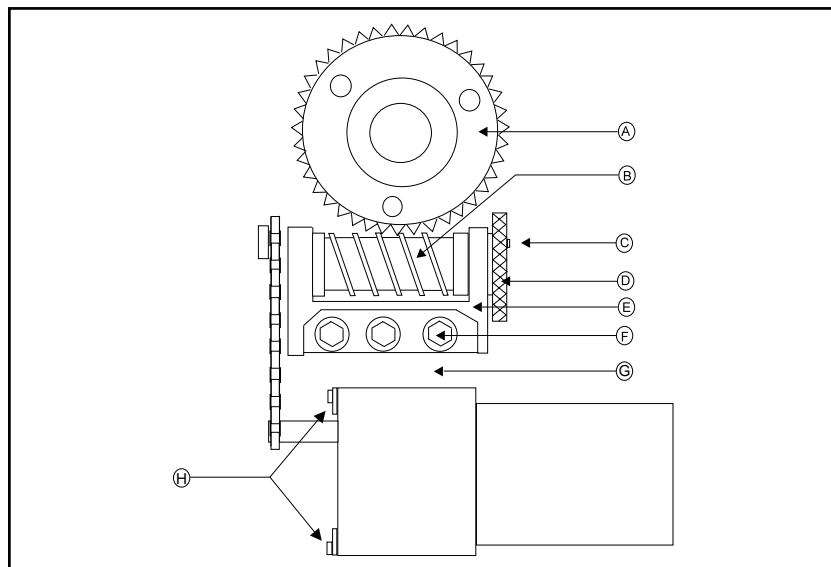

Figure 1. Pan and Tilt Adjustments
3. Refer to Figure 1. It shows the parts locations of the tilt assembly. Look for similar orientations of parts when adjusting the pan assembly.
- a. Verify that the worm drive (B) is fully seated in the worm gear (A). If it is not:
- (1) Locate the worm-driven gear for either the pan or the tilt motor linkage. Loosen the three hex screws (F) holding the worm in place, but leave enough thread in place to hold the assembly on the mount.
- (2) Using your thumbs, gently move the worm forward or pull the assembly back from the worm gear to either tighten or loosen the gear spacing to the worm gear. Move the base of the pan and tilt to check the adjustment.
- (3) If you get movement in the base, press a finger down in the middle of the worm assembly. If you get no movement in the base, use your thumb and forefinger to pull the worm assembly back until you get movement.
- (4) When the spacing is correct, tighten the hex screws. Start with the middle screw to ensure proper spacing.
- (5) Remove the screw (C) in the gear train nut (D).
- (6) Tighten the gear train nut to remove any play.
- (7) Line up the hole in the gear train nut with the nearest hole in the gear train bracket (E).
- (8) Replace the screw.
- b. Refer to Figure 1. Adjust chain tension, if needed:
- (1) Locate the pan or tilt motor on the assembly. Loosen the hex screws (H) that hold the motor to its mounting bracket. Depending on which motor assembly you are adjusting, there will be either three (pan) or four (tilt). (Only two screws are shown in Figure 1.)
- (2) Using a screwdriver, pry the motor down (at G) to tighten for the correct chain tension. (You should not be able to freely move the motor with your finger, nor should it be so tight that it will not move at all as this usually leads to binding.)
- (3) Tighten the hex screws.